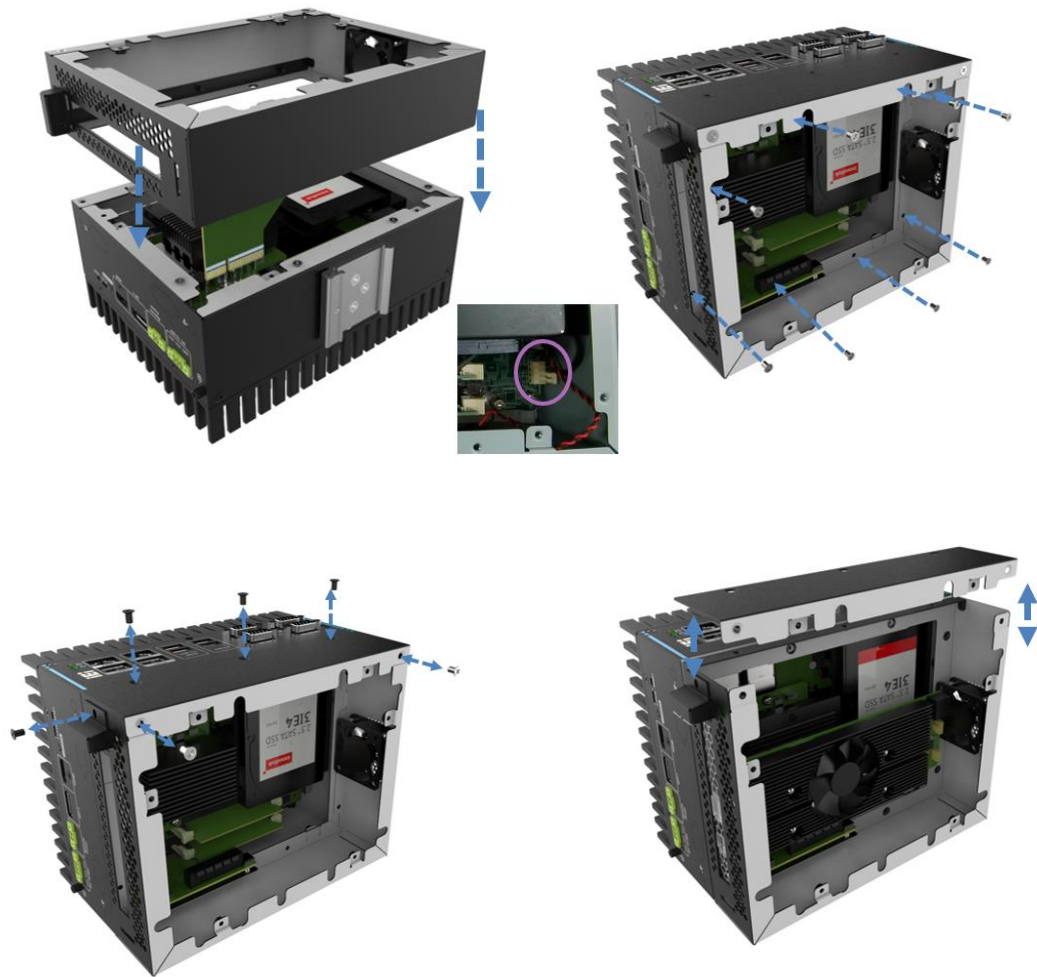

Figure 3-15: Expansion Chassis Installation
- Step 3:** To install an expansion card, open the cover on the top cover of the expansion chassis by removing 6 screws. Remove the blank bracket and install the PCIe card. Reinstall the bracket screw and the top cover after installing the card (Figure 3-15).